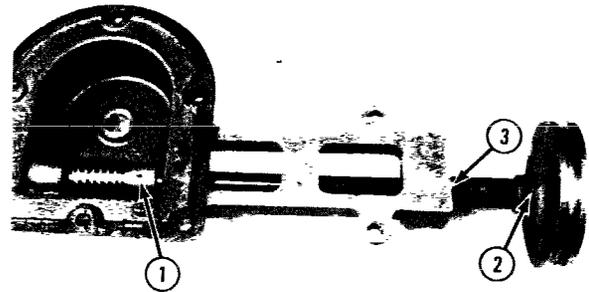

Fig. 2-31
- (9) Drive the rollpin (1, Fig. 2-31) out of the bowl drive worm and through the oil drain hole in the gear case.
- (10) Drive the rollpin out of the drive pulley and remove the pulley from the shaft (2, Fig. 2-31).
- (11) Remove the bearing retaining ring (3, Fig. 2-31).
- (12) Remove the shaft and bearing from the transmission case.
- (15) Install the bearing retaining ring (3, Fig. 2-31).
- (16) Install the drive pulley on the shaft. Drive the rollpin into the pulley and peg it to the shaft.
- (17) Clean all sealing surfaces on the transmission case and the bottom of the housing.
- (18) Use Permatex #2 as a sealant and install the transmission case on the housing. Tighten all bolts and nuts evenly.
- (19) Fill the gear case with 5 oz. of Gearep 140.
- (20) Install the bottom cover and leg support.